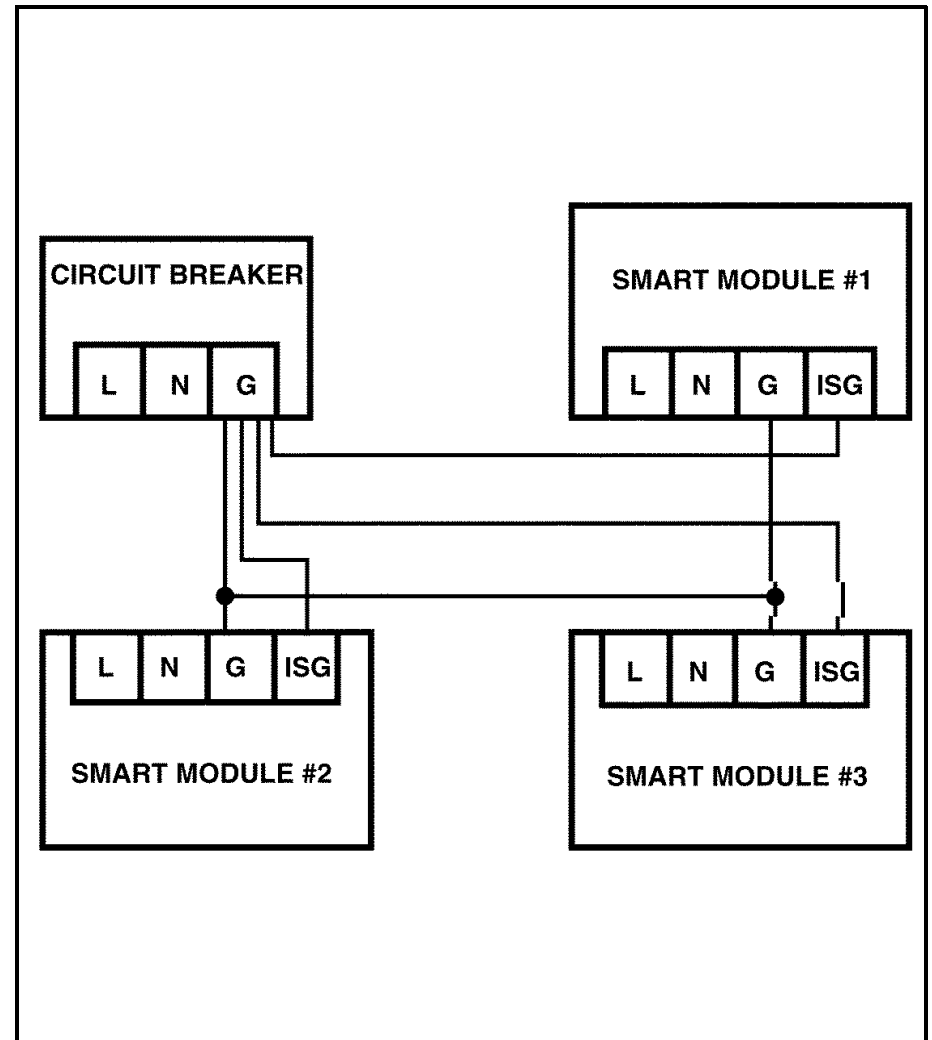

Figure 32 - Smart Module Dual-Ground Wiring
- For the *dual ground* version (Figure 32), connect the I.S. ground terminal from each Smart Module directly to the ground bar in the circuit breaker. *Do NOT daisy chain the I.S. ground wires!*